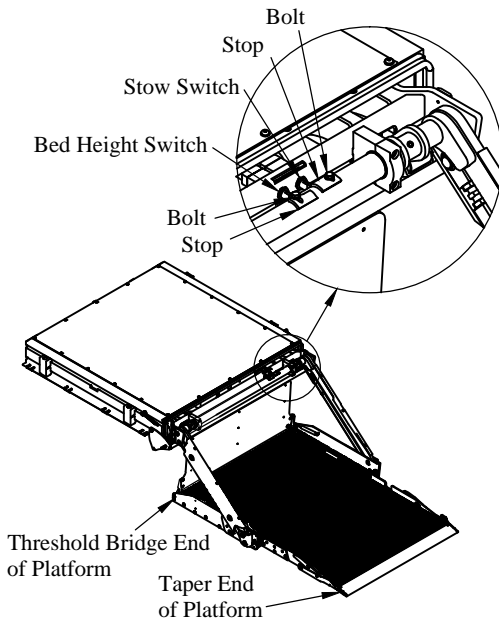

Figure 6: Limit switch locations.
3. **Make Note** of the distance between the bed height switch and the stop (Figure 6).
2. **Lower** the liftgate to the ground (Figure 6).
4. **Lower** the liftgate partially for access to the stop and bolt for the stow switch (Figure 6).